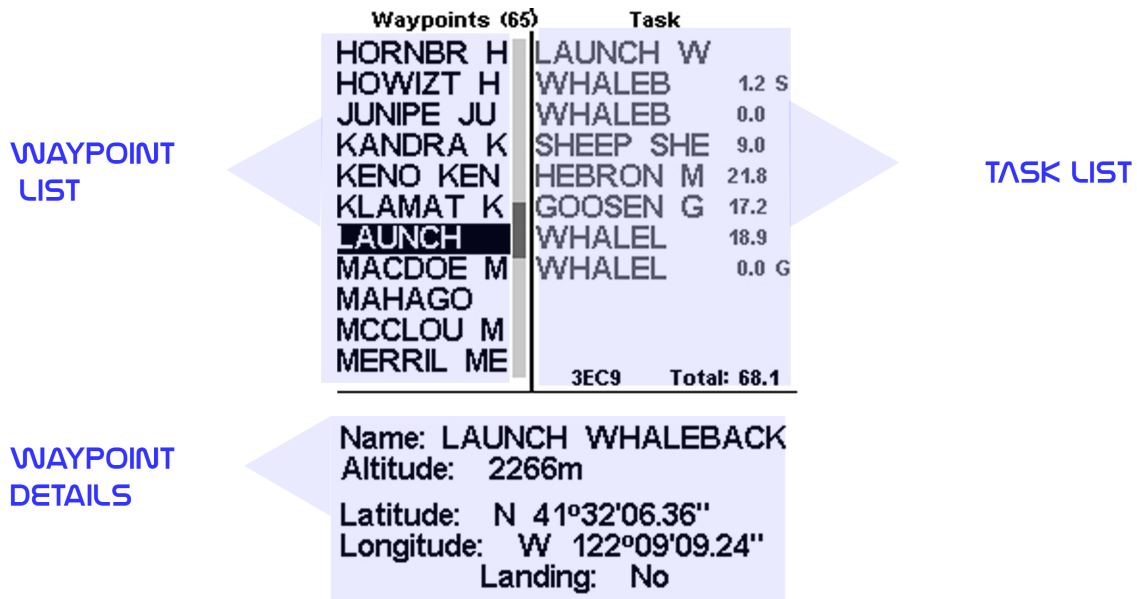
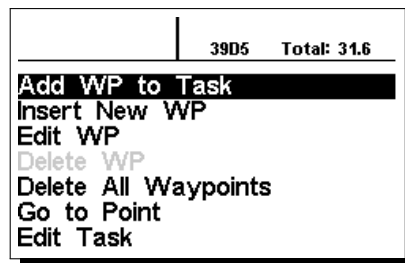

Figure 4.2: Waypoints and RouteScreen
Figure 4.3: Waypoints Action Menu
The Waypoints/Route page allows the user to manage waypoints, and define a route/task. As shown in Figure 4.2, the page is divided into 3 areas, namely the waypoint list (WL); Routelist (TK) and selected waypoint details/options list (DO). The DO area can change according to which submenu you are in. Specifically, it can show the selected waypoint data, or a list with possible actions for the waypoints. Entering the page activates the WL area. At the top of the page next to the title Waypoints, is the total number of Waypoints stored in the GPS instrument¹. The first waypoint on the list appears highlighted, and the corresponding data of the selected waypoint is shown in the DO area. As the cursor is moved to a different waypoint so the data changes matching the newly selected waypoint. If the waypoints list is empty a list of available actions is shown in the DO area. Since no waypoint exists only the *Insert new Waypoint* action is available. Pushing the ENTER key when a waypoint is selected activates the waypoint actions menu (WAM). A list with the available actions is shown in the DO area Figure 4.3.
Available WAM options appear in black, otherwise in grey. For example, in Figure 4.3 the option *Delete WP* is in not available because the Waypoint list is empty.